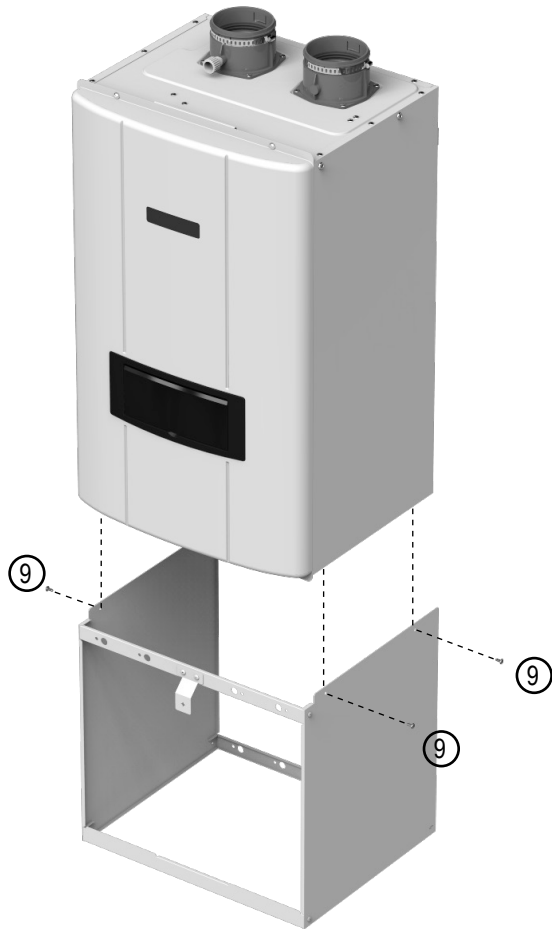

Figure 3
- 3) Slide the Pipe Cover assembly onto the bottom of the appliance. Align the mounting holes and temporarily mount the Pipe Cover with the 4 screws (9). Refer to Figure 3.
- 4) The 'back' bottom Frame Bracket 1(6) inserts into the temporarily mounted Pipe Cover. Mark the locations to attach the Pipe Cover to the wall onto the 'back' bottom Frame Bracket 1(6).